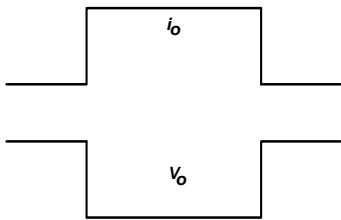
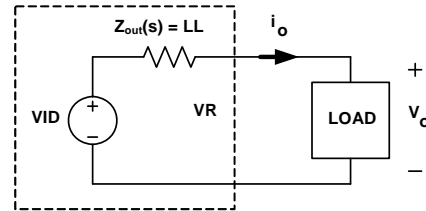

FIGURE 19. DESIRED LOAD TRANSIENT RESPONSE WAVEFORMS
FIGURE 25. VOLTAGE REGULATOR EQUIVALENT CIRCUIT
With proper compensator design, Figure 19 shows the expected load transient response waveforms. When the load current i_o has a square change, the output voltage V_o also has a square response.
Figure 19 shows the desired load transient response waveforms while Figure 25 shows the equivalent circuit of a voltage regulator (VR) with the droop function. A VR is equivalent to a voltage source (VID) and output impedance $Z_{\text{out}}(s)$. If $Z_{\text{out}}(s)$ is equal to the load line slope LL, i.e. constant output impedance, in the entire frequency range, V_o will have square response when I_o has a square change.